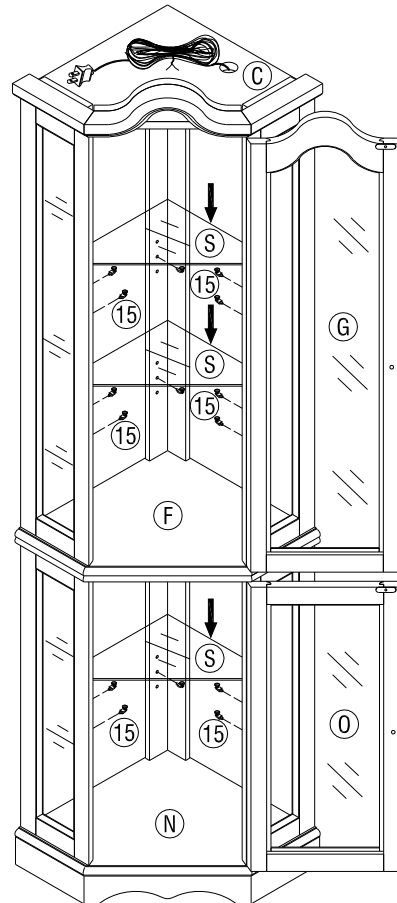

FIGURE 12
12. FIT SHELF SUPPORTS (15) INTO PREDRILLED HOLES ON INSIDE OF PARTS (A, B, D, E, I, J, L, M), AND PUT GLASS SHELVES (S) ON EACH SHELF SUPPORTS (15). AS SHOWN IN FIGURE 12.